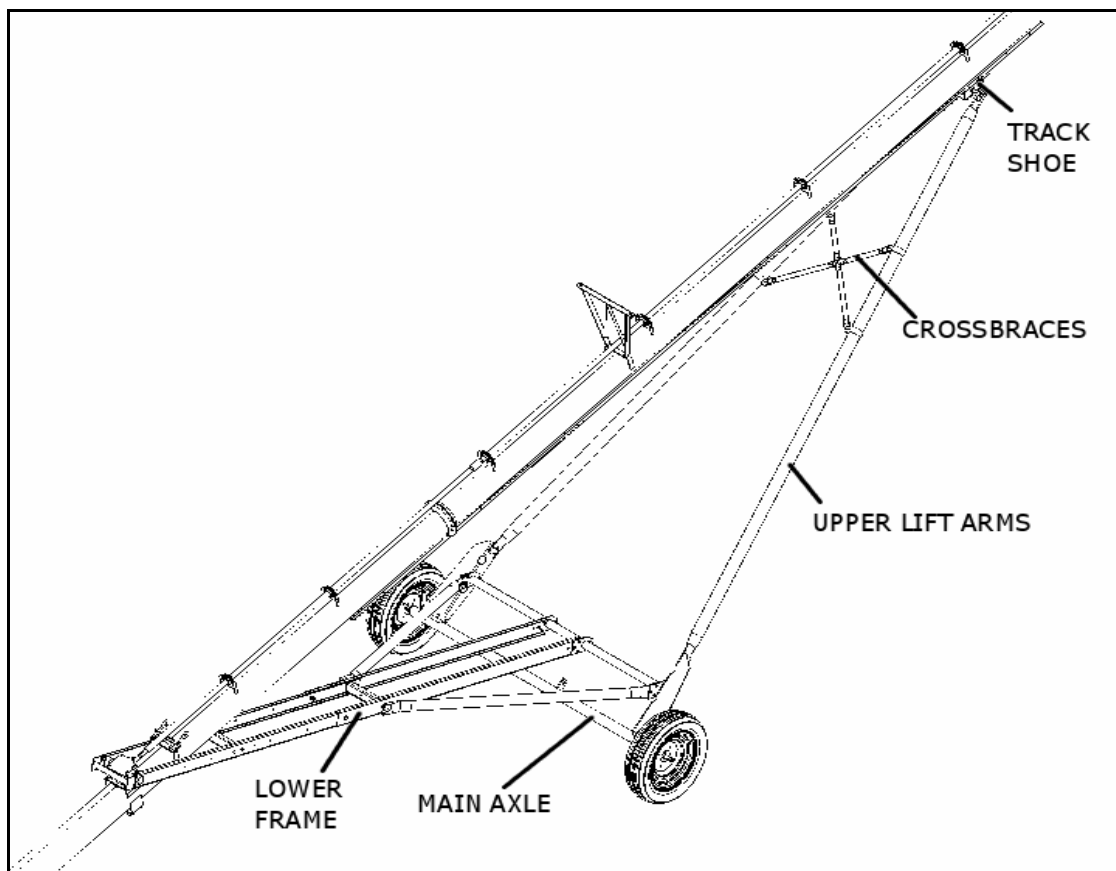

Figure 3.12 Frame Assembly
11. Position the main axle underneath the tube assembly and attach main axle to lower frame with two 5/8" x 1-1/2" bolts and locknuts (Figure 3.12).
- ➔ 15. For auger models **841, 846, 851, and 1041** only, install crossbraces on upper frame with four 3" tube clamps and four 7/16 x 1-1/4" bolts and locknuts. Use a 1/2 x 1-1/4" bolts and locknut for the center (where crossmembers intersect)[singular or plural bolts and locknuts?](Figure 3.12).[would it be better to refer to models by size rather than number?]